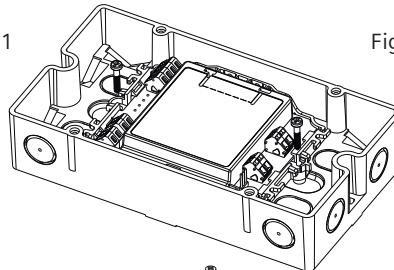

Fig. 4.6.2
- Installation outside a switching cabinet or a control unit: use FDCH221 housing (Fig. 4.6.2) .